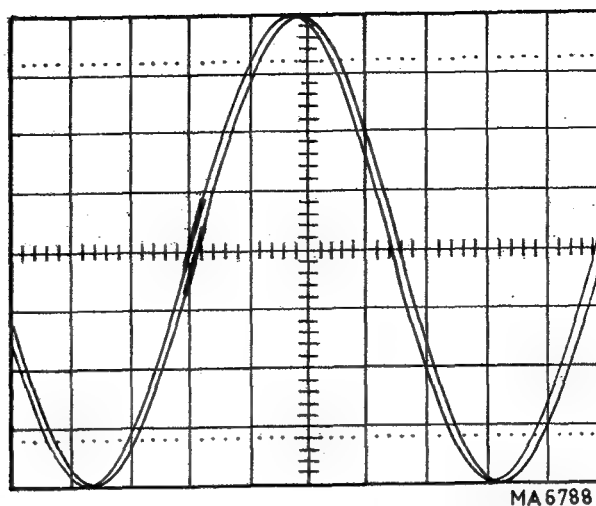

Fig. VIII-14. Phase difference display with the intensified portion located at a point where the two pulses cross the centre-line
- Set the TIME/div. switch of the delayed time-base to a position which produces the smallest possible length of display intensification, shown in Fig. VIII-14. A small readjustment of the INTENS control may prove necessary